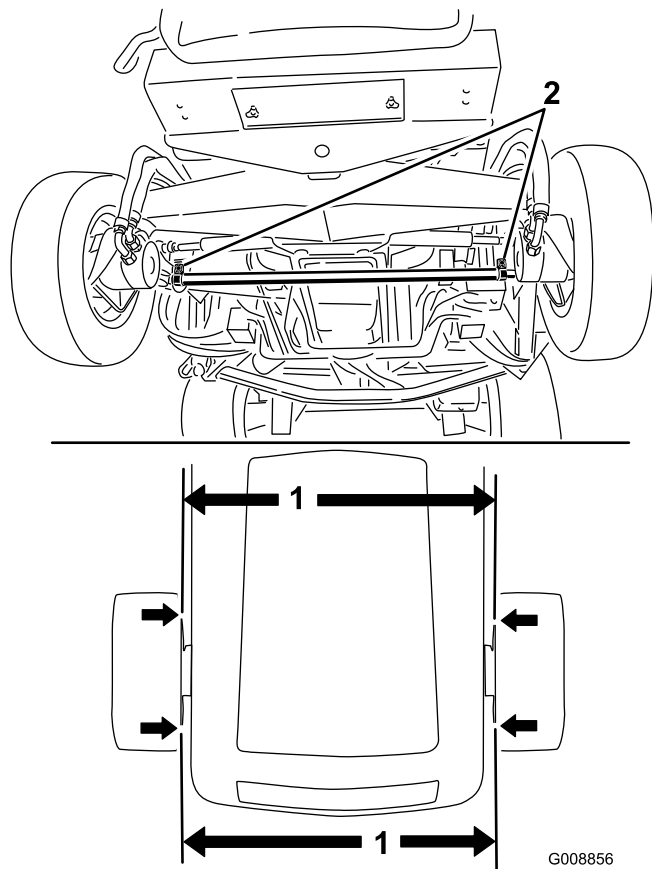

Figure 71
1. Measure the center-to-center distance (at axle height) at the front and rear of the steering tires (Figure 71). The front measurement must be no greater than 0.00"-0.12" less than the rear measurement.
2. To adjust, loosen the clamps at both ends of the tie rods (Figure 71).